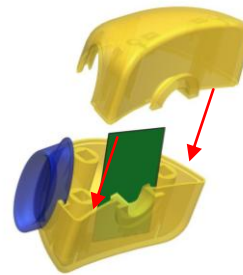

Fig. 7
6. Group the wires through the hole and close the head part (15). (Fig. 7)